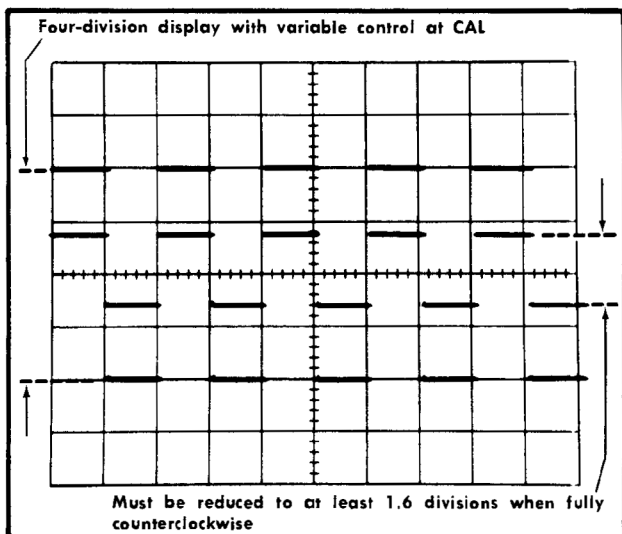

Fig. 6-19. Typical CRT display when checking VARIABLE VOLTS/DIV control range (double exposure).
- b. CHECK—Turn the Channel 2 VARIABLE VOLTS/DIV control fully counterclockwise. Display should be reduced to 1.6 divisions or less (representing a control attenuation range of 2.5:1 or greater; see Fig. 6-19). Channel 2 UNCAL light must be on when VARIABLE control is not in CAL position.
- e. CHECK—Turn the Channel 1 VARIABLE VOLTS/DIV control fully counterclockwise. Display should be reduced to 1.6 divisions or less (control range of 2.5:1 or greater; see Fig. 6-19). Channel 1 UNCAL light must be on when VARIABLE control is not in CAL position.